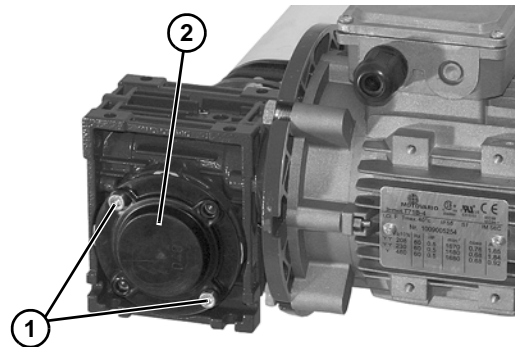

Figure 12
1. Remove two (2) screws (Figure 12, item 1) and remove drive shaft cover (Figure 12, item 2).
9. Install cover (Figure 12, item 2) and tighten two (2) screws (Figure 12, item 1) to 50 in-lbs (5.6 N-m).